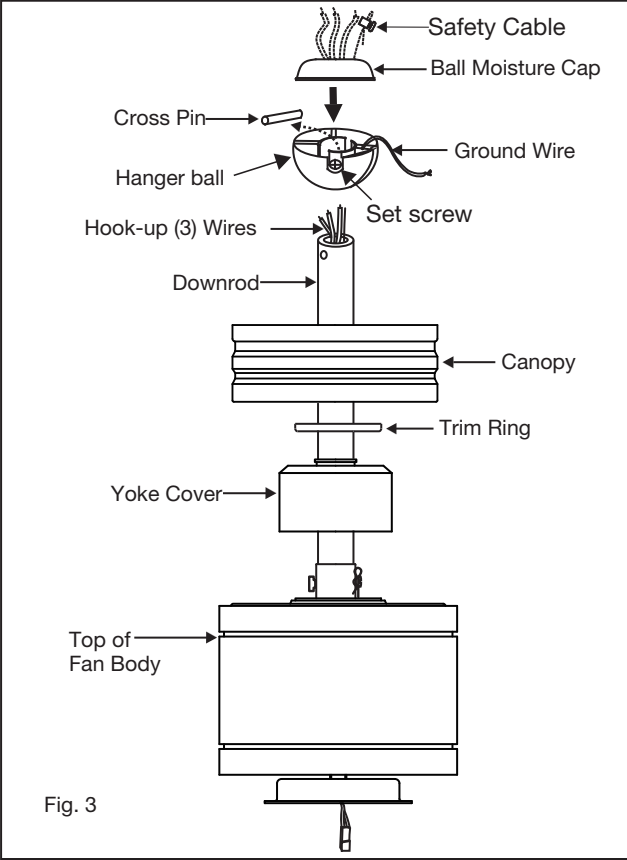

Fig. 3
- 6 Slip the yoke cover, trim ring and canopy onto the downrod. (Fig. 3)
- 8 Feed wires through holes in rubber ball moisture cap and slide cap down over top of ball. (Fig. 3)
Remove the screws and take out the glass shade from the light cover (Fig. 2), then attach the metal Plate to the light cover B and light cover A with the screws provided. (Fig. 3)
- 1 Remove the existing wall plate and old switch from the wall outlet box. (Fig. 3)